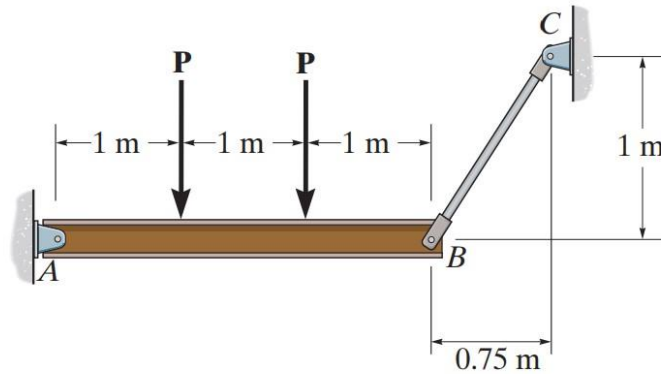

Figure Q1
1. Rod BC shown in **Figure Q1** is made of A-36 steel and has a diameter of 40 mm. Given $E = 200$ GPa and $\nu = 0.32$.